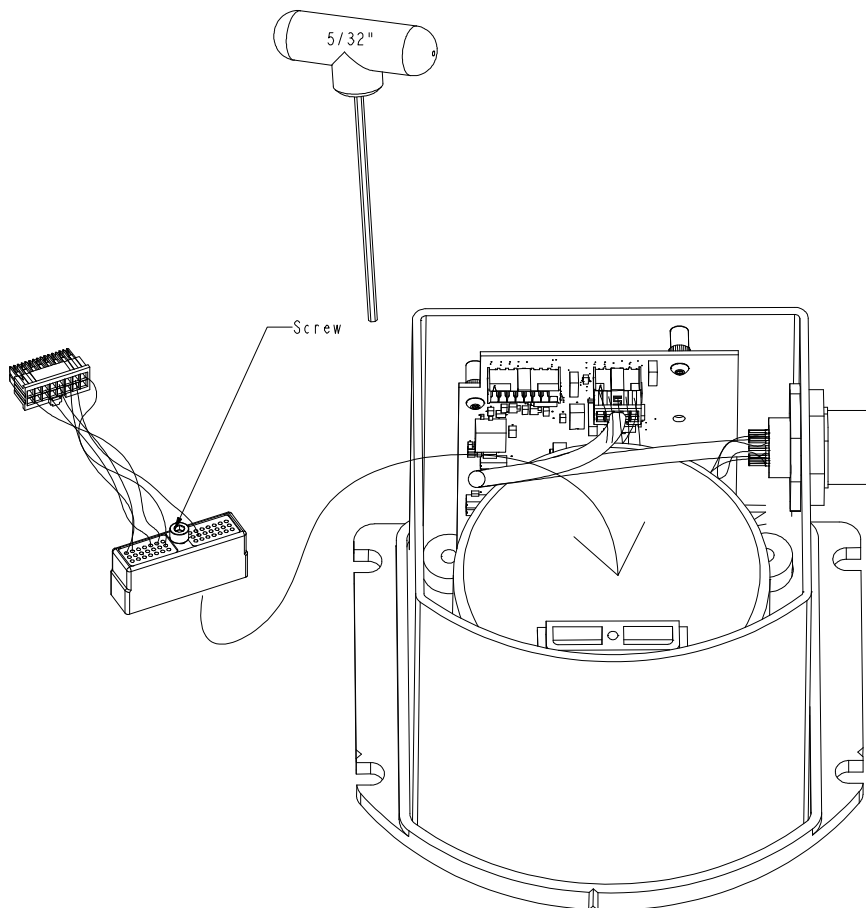

Figure 79: Attach Wiring Harness
1. Attach the LN-200 wire harness to the mating connector on the LN-200. Check that the connector is fully seated, as shown in *Figure 79 on page 381*.